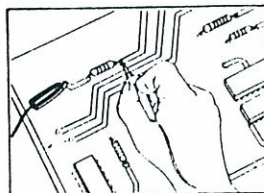

Fig. 5
4. Connect test leads to the circuit being measured (Fig. 5). When measuring high resistance, be sure not to contact adjacent points even if insulated, because some insulators have a relatively low insulation resistance.